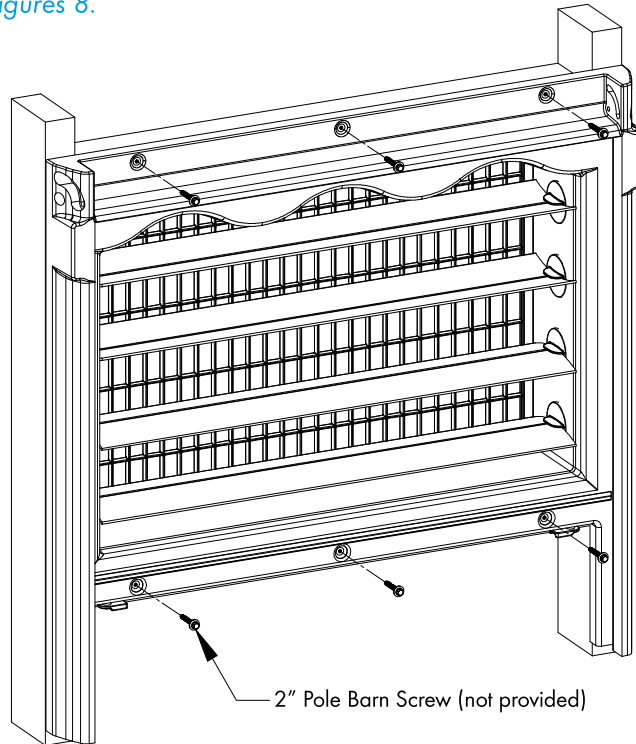

Figure 8
Secure inlet in framing using (6) 2" Pole Barn Screws (not provided). Be sure not to overtighten screws and damage inlet. See Figures 8.